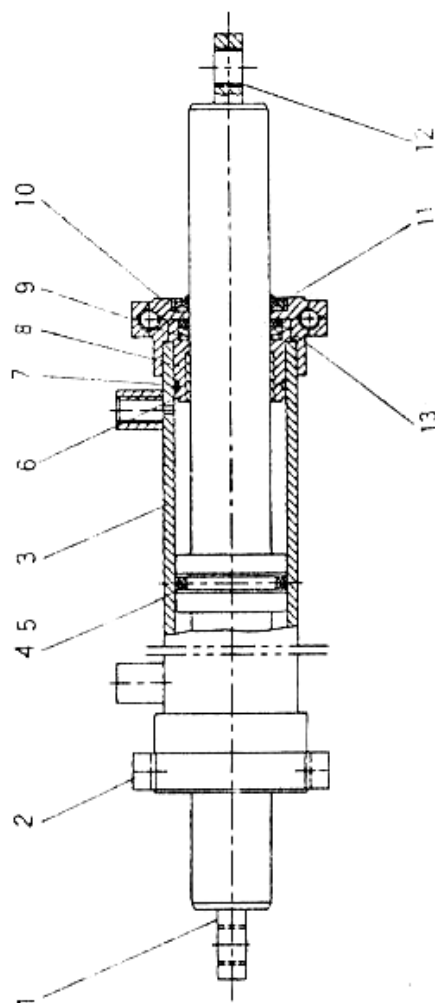

Fig 4-3 Steering Cylinder
(2) Steering Cylinder (Fig 4-3)